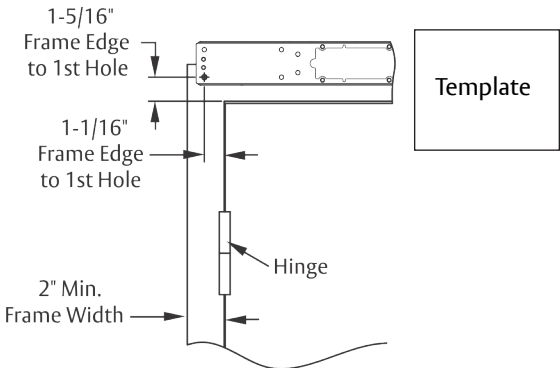

Figure 2 Right Hand Shown
2. Measure and mark first mounting hole according to template. (Figure 2)